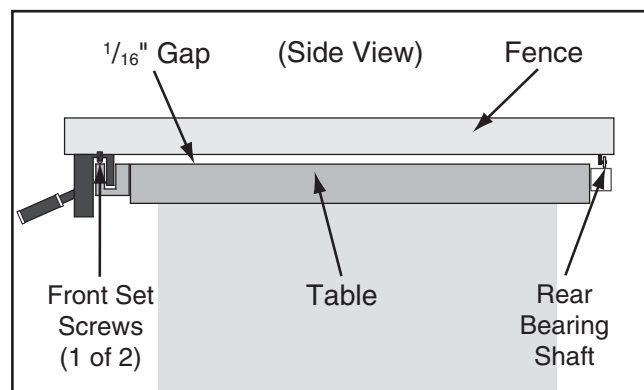

Figure 120. Example of even gap between fence and table approximately $\frac{1}{16}$ " front to back.
- If gap is approximately $\frac{1}{16}$ " and even from front of table to back (see **Figure 120**), then no additional adjustments are necessary. Proceed to **Fence Handle Clamping Pressure** below.